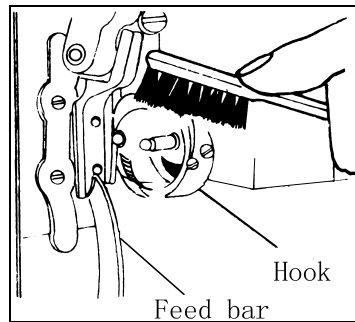

Fig. 35
2) Cleaning rotating hook (See Fig 35)